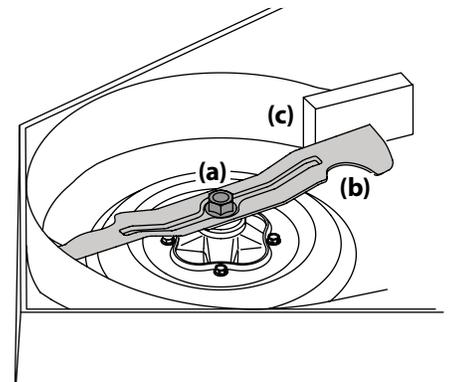

Figure 4-18
2. Use a $1\frac{5}{16}$ " wrench to hold the hex nut on top of the spindle assembly when loosening the hex nut (a) securing the blade (b). A block of wood (c) may be placed between the deck housing and the cutting edge of the blade (b) to help in breaking loose the hex nut (a) securing the blade. See Figure 4-18.